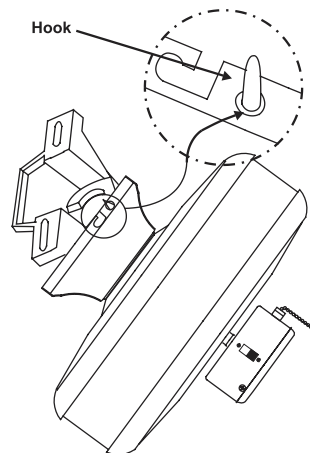

Fig.10
6. Hang the fan on the hook of the hanger bracket. Be certain that the canopy is fully locked into hook as shown in (Fig.10). This will allow you to make the electrical connections.
Remove the fan from the hook on the hanger bracket (Fig. 10). Secure the canopy to the hanger bracket by placing screws into slot in the canopy. Twist clockwise to lock in place, and tighten four screws firmly. (Fig. 12)